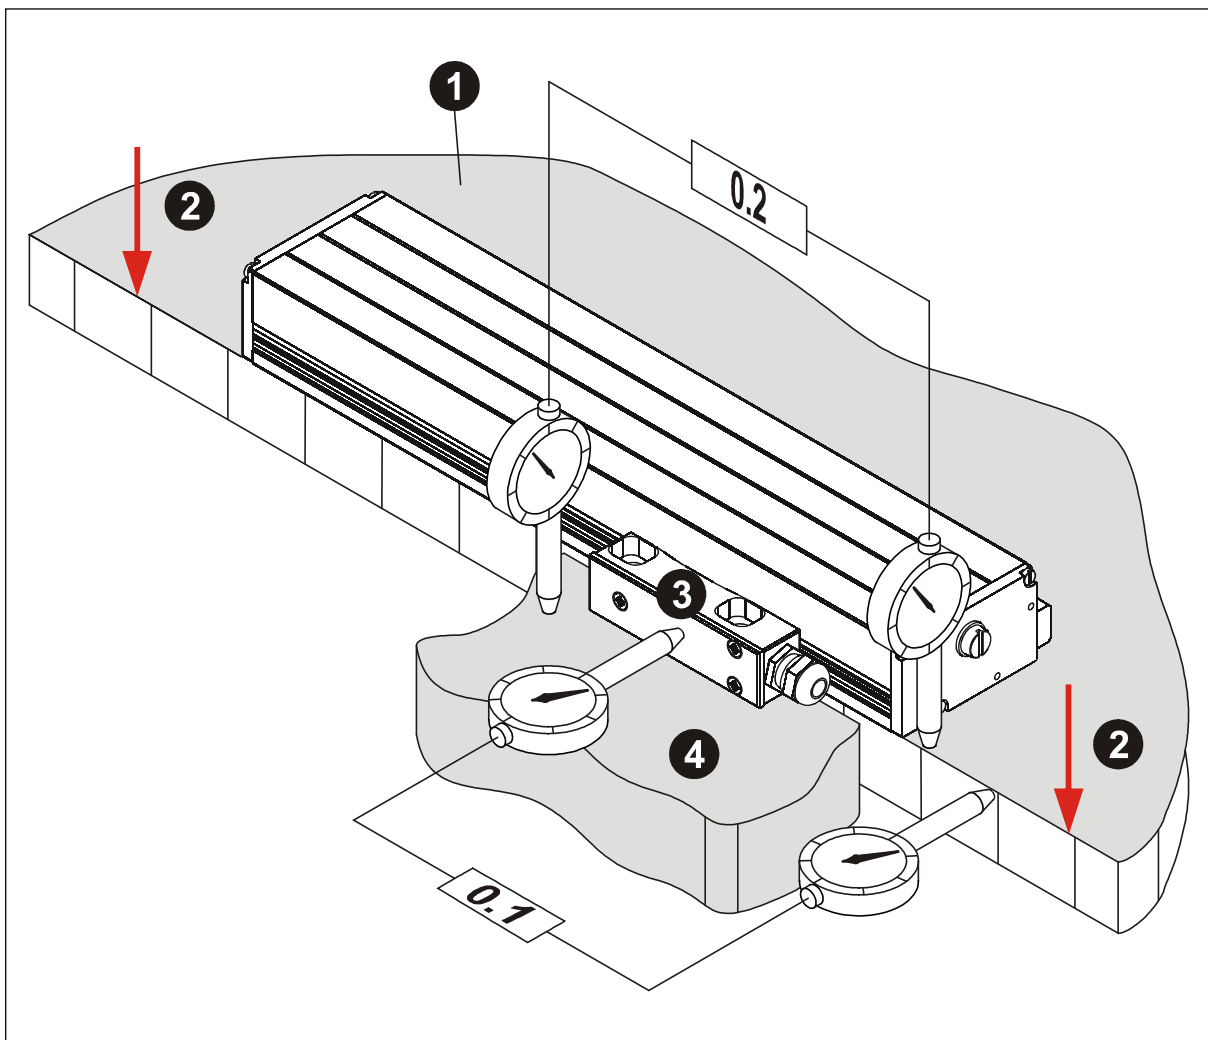
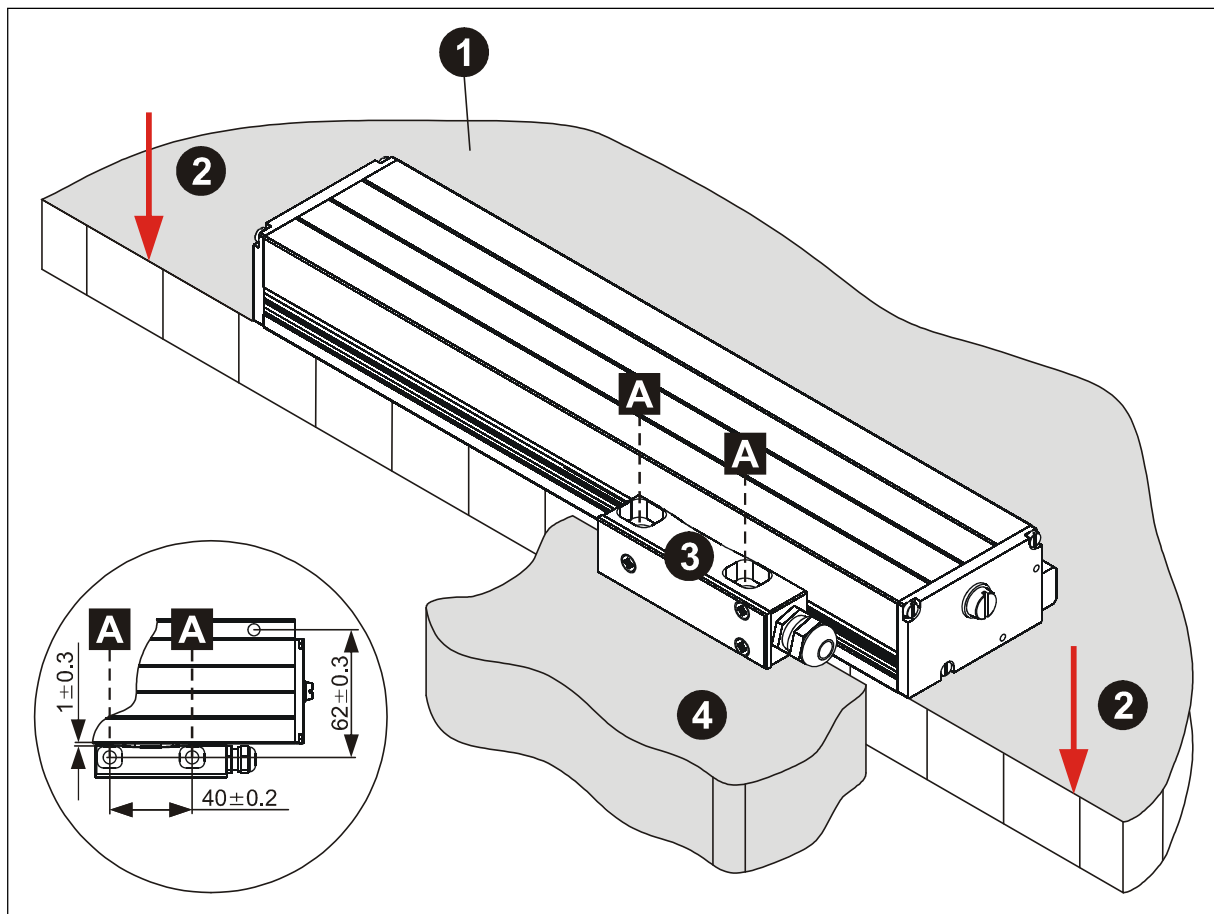

Figure 9: Preparation of bolting surface (4), variant 1
Figure 10: Fastening threads for the driver slide, variant 1
- Align driver slide according to the tolerance data Figure 9 page 48 and additionally to the measure 1 ± 0.3 mm Figure 10 page 49, related to the complete measuring length.
- Can the mounting aid (1) be inserted over the complete measuring length easily between driver slide (2) and measuring system ?